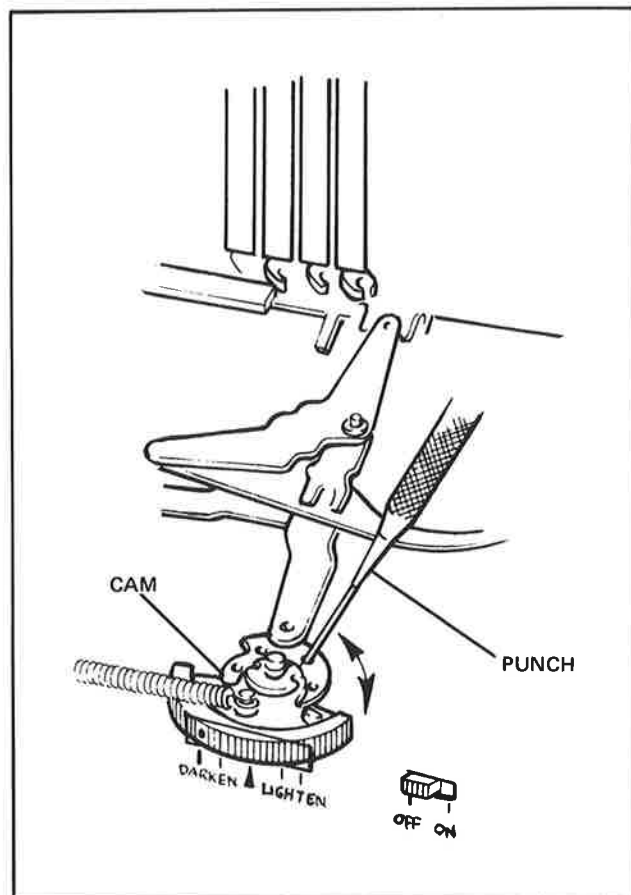

FIG. 4-26 ADJUSTING THE LOUVERS
2. Insert a 1/16" drive pin punch (or equivalent) in a zero adjust cam slot and rotate the cam **clockwise** until the louvers are almost fully closed (Figure 4-26). Remove the punch.